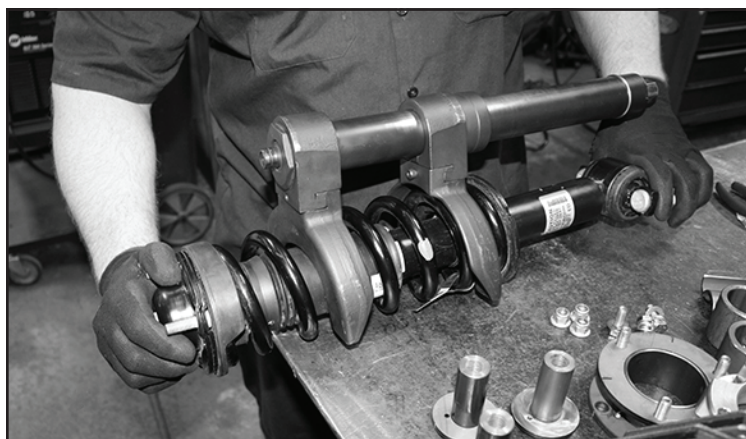

FIGURE 12 - STEP 12
12. Using a coil spring compressor. Compress the coil just enough to rotate the top cap 60 degrees clockwise (looking at the top of the strut). **SEE FIGURE 12**